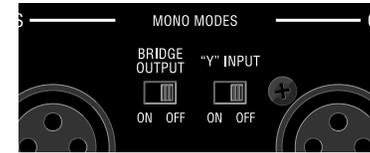

Fig. 2.2
3. **Set the mono mode switches.** Both the Bridge Output and “Y” input switches should be in the OFF position when you're running in Stereo Mode (see Figure 2.2). Stereo Mode allows independent inputs on the right and left channels to feed separate speakers at the output. It's the configuration typically chosen for everyday audio applications.